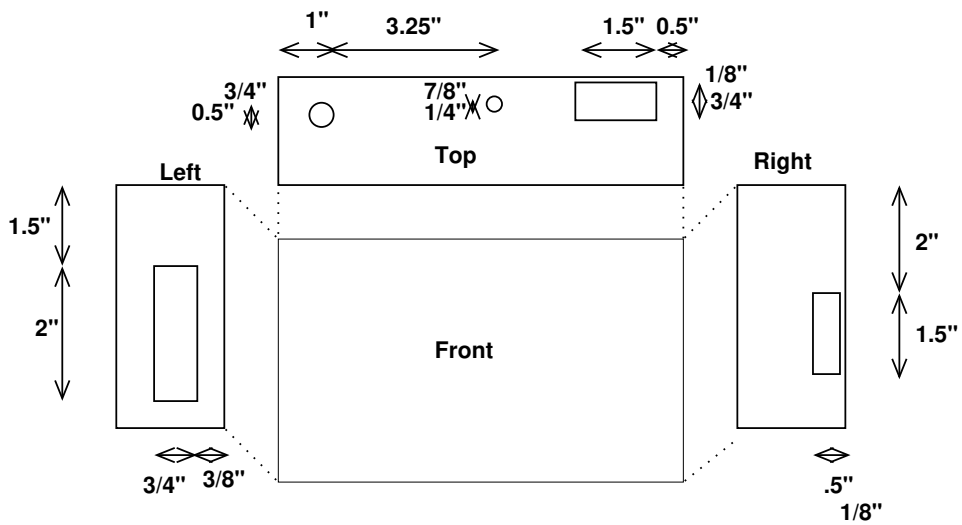

Figure 9: Holes to make in the case.
- (a) Drill the holes and openings as indicated in Figure 9. I used a hand drill and coping saw to do this, but you probably have better tools at your disposal.